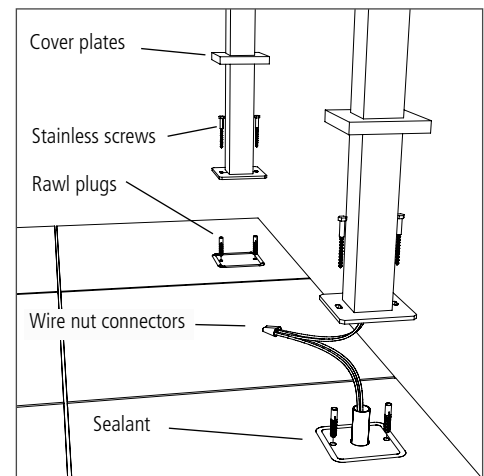

Fig 4.0
- **APPLY A BEAD OF NEUTRAL CURE SILICONE SEALANT TO THE FLOOR. SEE FIG 4.0**